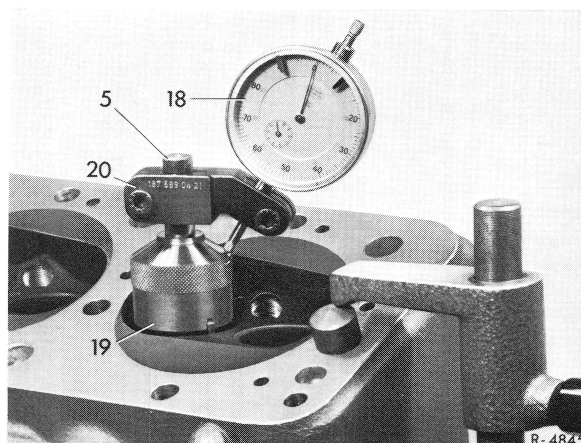

Fig. 3
13 Place testing sleeve (19) on same pilot (5) (Fig. 3). Attach dial gauge (18) by means of dial gauge holder (20) to rotate test sleeve.